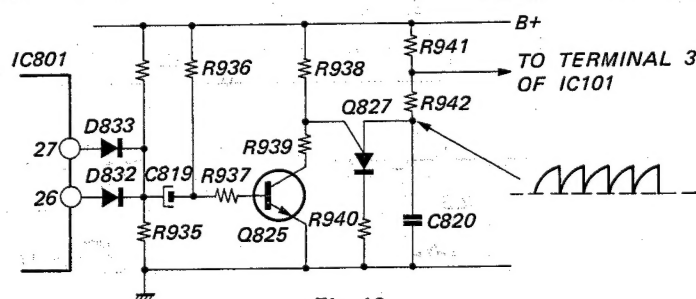

Fig. 13
- (1) C820 is charged through R941 and R942.
- (2) When the charged potential exceeds a voltage determined by R938 and R939, it will rapidly be discharged.
- (3) Then, C820 is re-charged.
- (4) Repetition of such charging and discharging will result in a reference signal as shown in Fig. 13.
- (5) If the frequency of the reference signal deviates considerably from the above value as 130Hz, no correct timing can be attained. In particular, when REC MUT button is pressed during the record mode, the pause lamp will flicker two times per second, which will be useful for checking the frequency deviation.
- (6) Q825 is provided to temporarily stop the generation of reference signals in order to make a stopped state for about 0.3 second at time of direct function selection.